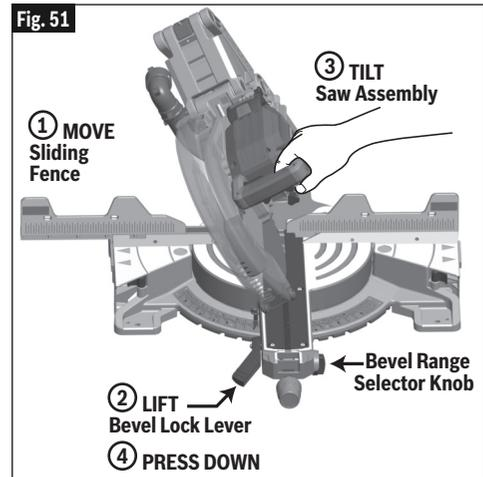

Fig. 51
1. Move the left sliding fence out to clear saw assembly and relock (Fig. 51).
1. Move the right sliding fence out to clear saw assembly and relock (see Fig. 51).
1. Move the left and right sliding fences out to clear saw assembly and relock (see Fig. 51).